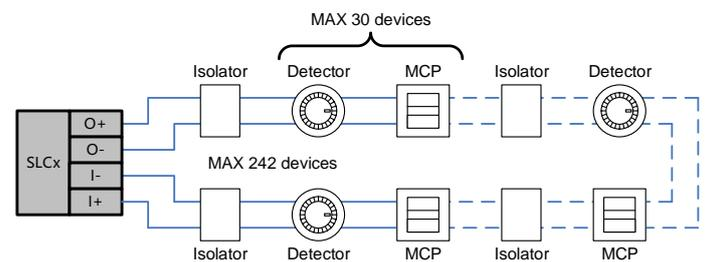
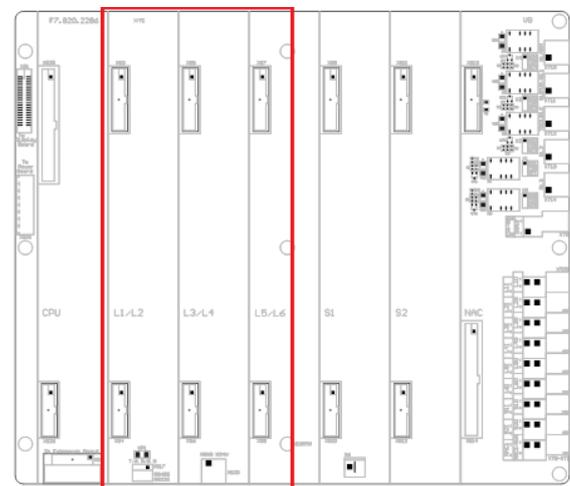

Fig. 1
Fig. 2
- ✧ One GST-IFP4M Control Panel can connect 3 LC-402 cards at the most. Its installation position is shown in Fig. 2.
When connecting with DC-M9503 Loop Isolator, Each SLC can connect up to 128 Isolators. 50 detectors/MCPs/modules can be protected between two isolators. Connection is shown below Fig 1.
LC-402 Dual Loop Card is inserted into mother board slots of the control panel as shown in Fig.2. Connecting with loop devices is shown in Fig. 1.
| Open circuit | <ol style="list-style-type: none"> 1. Check if the connection is correct according to Fig. 1. 2. Check if the circuit is open or there is short circuit between isolators. |